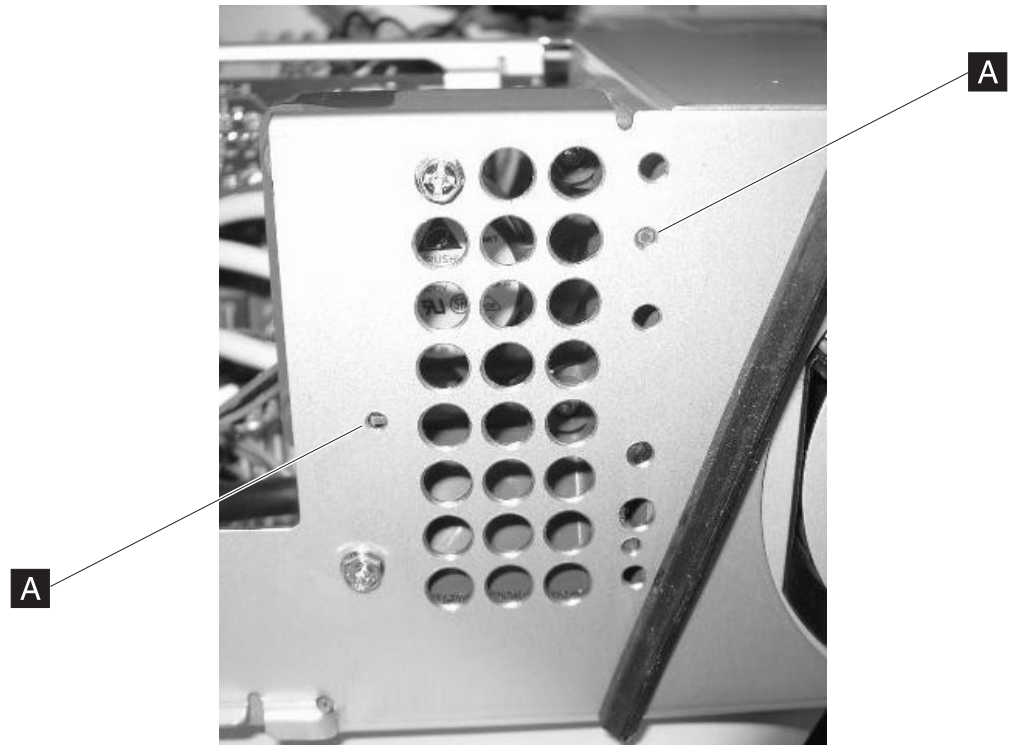

Figure 27. Location of alignment pen holes
6. To replace, align the fan with the two alignment holes (see **A** in Figure 27) on the housing.